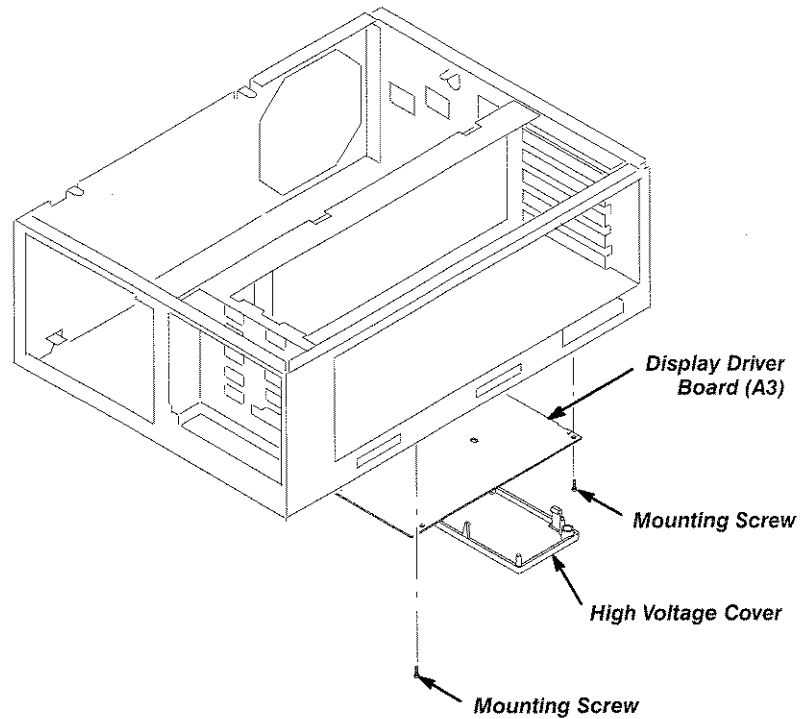

Figure 8-13: Location of Display Driver Board
1. Remove the plastic high voltage cover from the rear of the Display Driver board (A3). Refer to Figure 8-13.